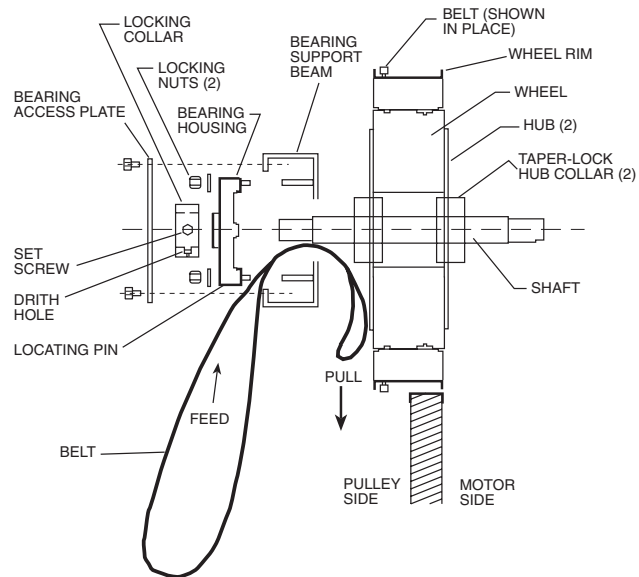

Fig. 85 — Belt Replacement
BELT REPLACEMENT (Fig. 85)
- Form a small loop of belt and pass it through the hole in the bearing support beam. Grasp the belt at the wheel hub and pull the entire belt down. Loop the trailing end of the belt over the shaft (Fig. 85 shows the belt partially through the opening).